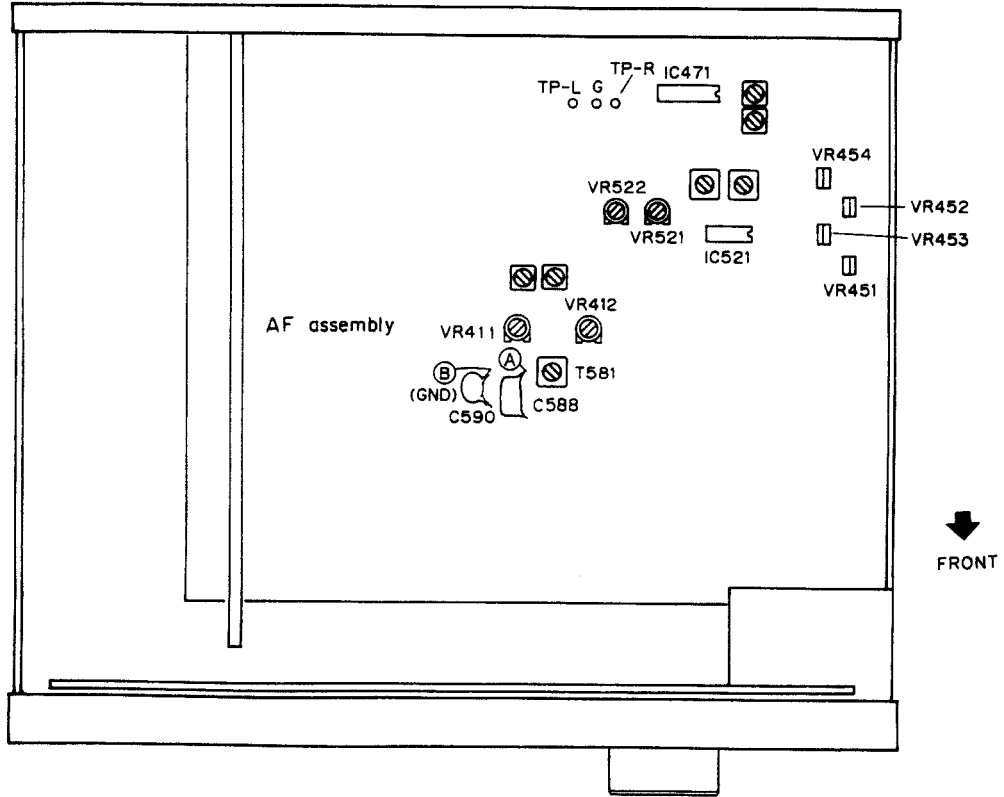

Fig 4.1. Adjustment location
| 1              | NORM             | REC  | Load the test tape STD-630 and set to record mode. | —                      | Area between (A) and (B) (AF Assembly) shown in Fig. 4-1. | The oscillation frequency is 105 kHz $\pm$ 1 kHz. |         |